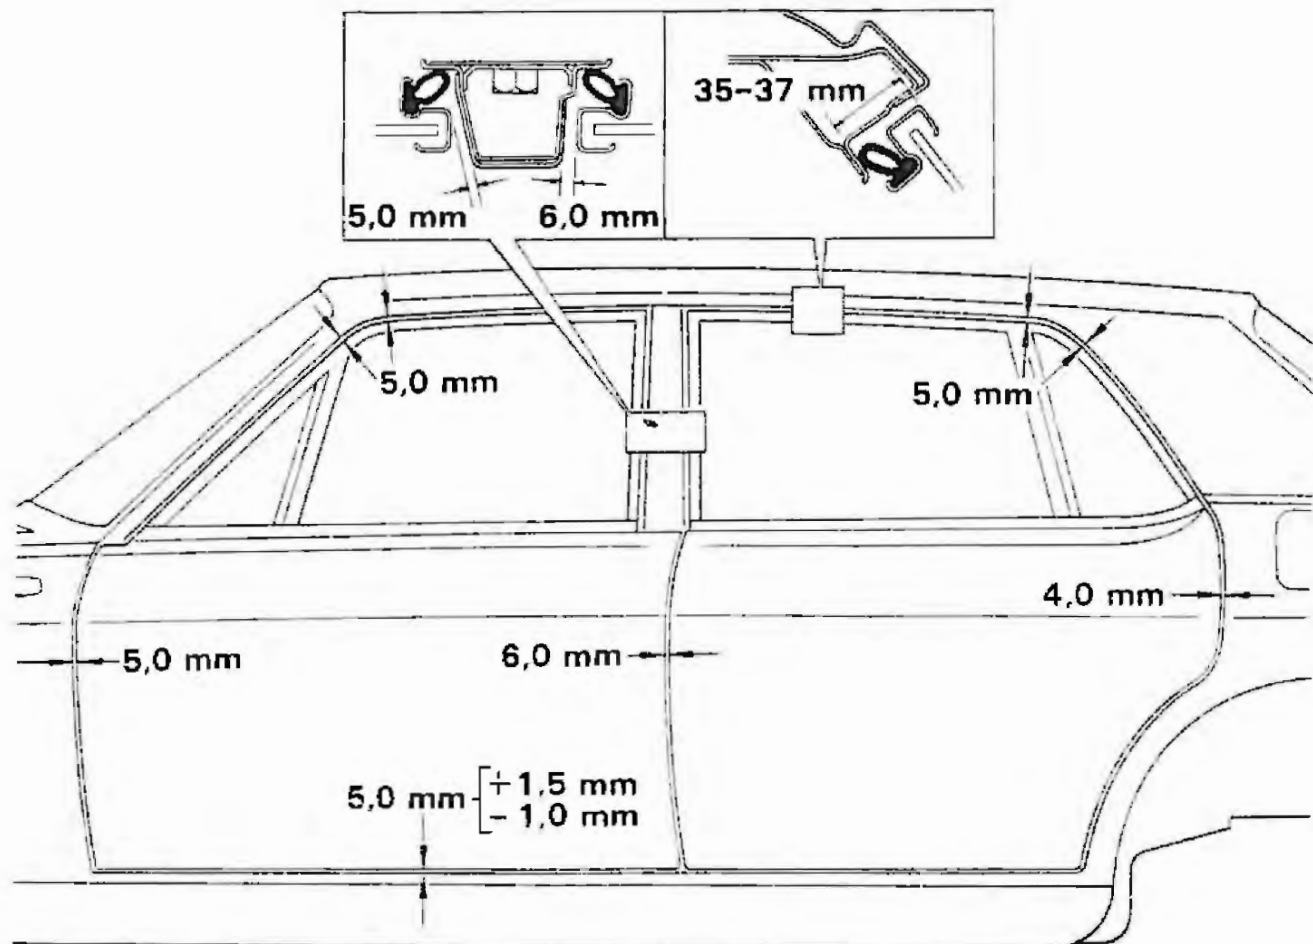

Fig. 9
21. Check the fitting of the door and window frame to the body, and set the frame to the dimensions shown in figure 9.
11. Check the fitting of the door and frame, to the body, and set to the dimensions shown in figure 9.
N.B. It is essential that the door frames are set as shown in figure 9. In particular, if the frame to seal landing face is less than 35 mm, then the seal is likely to fold over on closing the door.